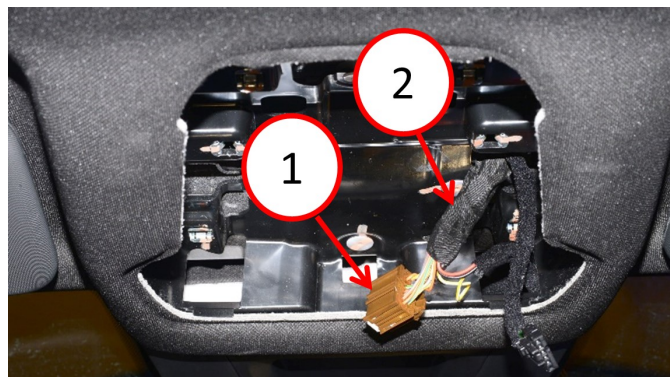

Fig. 1
5. Remove approximately 0.7 - 1.18 cm (2 - 3 in.) of the wiring harness tape, from the dome lamp wiring harness Fig. 1.